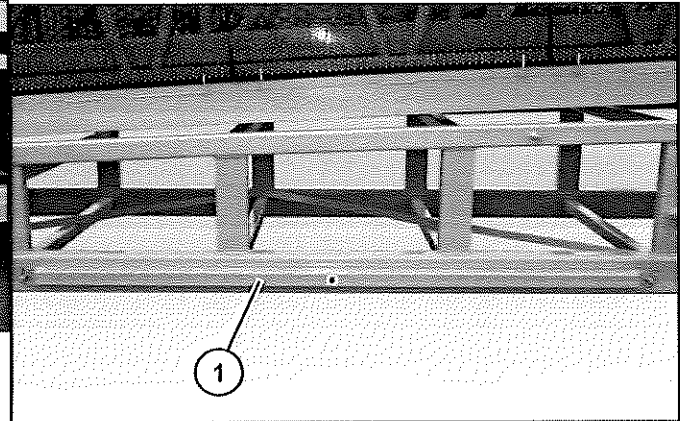

Figure 20
6. Unpin the two bars marked with a "B" (Item 1) (Figure 20) from the transport position and place them on the side of the conveyor frame as marked for storage. The "A" bars must be removed prior to placing the "B" bars.